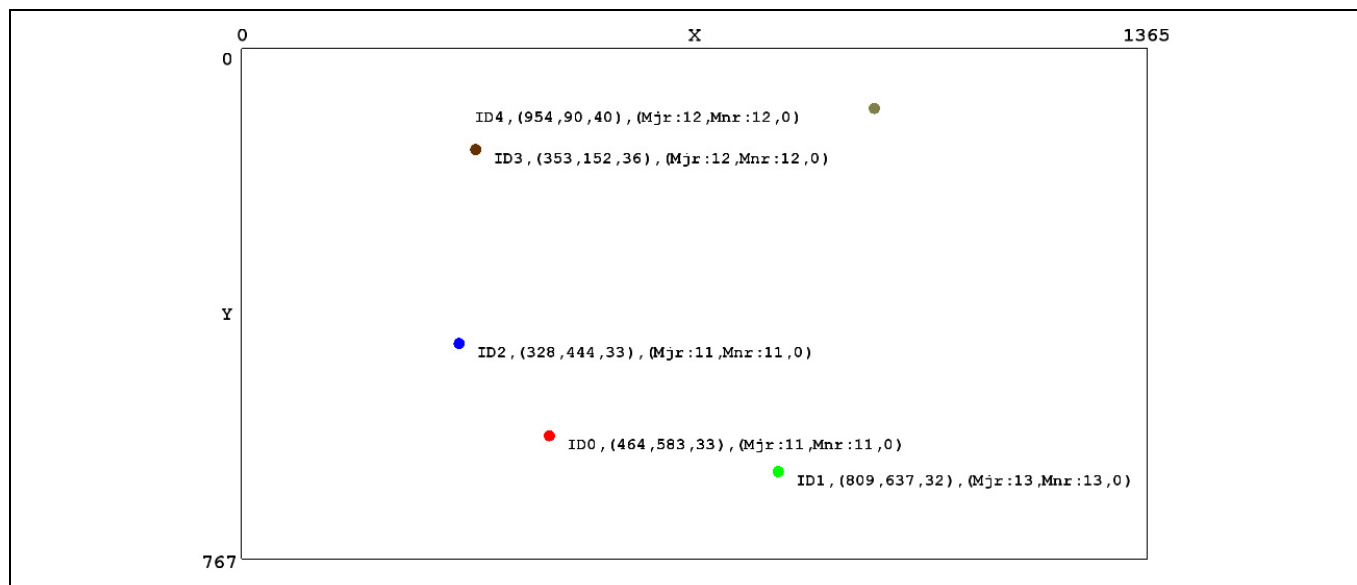

Figure 13 TTHE showing fingers placed on panel
12. The steps to set up the TTHE to communicate with the CYAT8168X EVK are now complete. Place a finger on the panel and see it move on the screen, as shown in Figure 13. Note that there are five fingers placed on the panel. It reports up to ten fingers.
13. CYAT8168X includes support for finger touch with and without gloves. This is handled by the signal threshold tuning parameters, which are configurable in TTHE. TTHE will report touches as shown in **Figure 13** for fingers (filled circle), whereas gloves are represented by a hatch-filled circle. Each finger placed on the panel is represented with a different color on the TTHE. Next to each finger, the finger ID, X-coordinate, Y-coordinate, the Z value (pressure of the touch reported), and Finger Orientation (Major, Minor, and Angle) are displayed in TTHE.